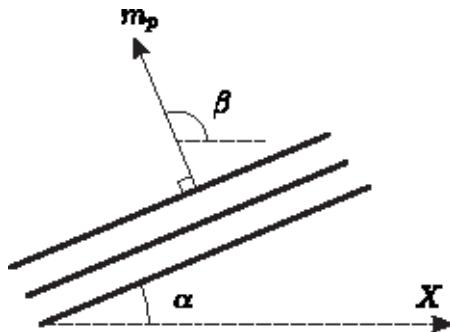

Figure 15.1: Direction of the moment capacity M_p
- **Angle (°)**, The angle (anticlockwise) described between the global x axis and the direction in which M_p is acting. Note that this is NOT the angle of the reinforcing bars (α in Figure 15.1), rather it is the angle NORMAL to them (β in Figure 15.1).